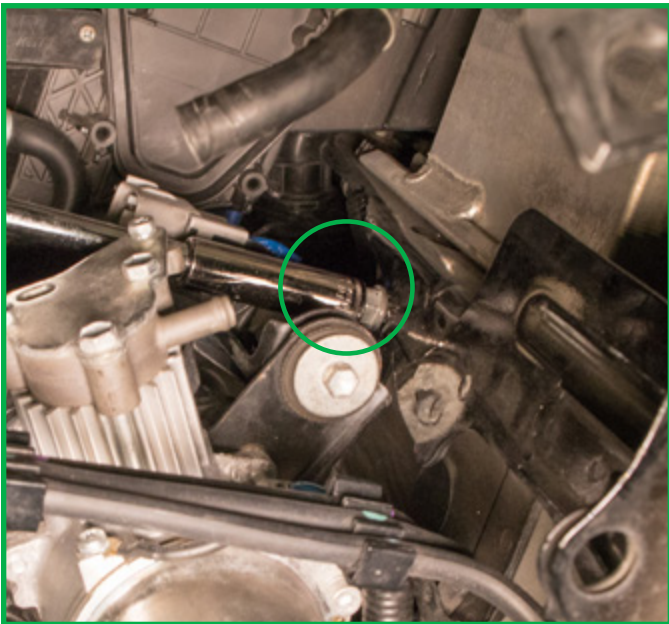

FIGURE 6
8. Loosen and remove the three bolts from the compressor as illustrated below. (Figures 6, 7, 8)